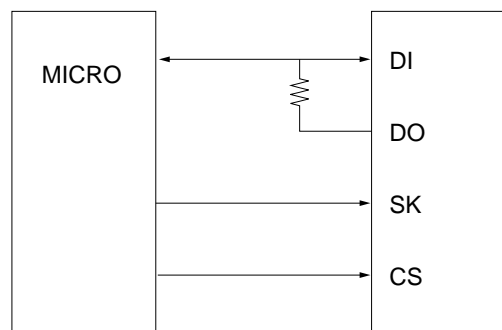
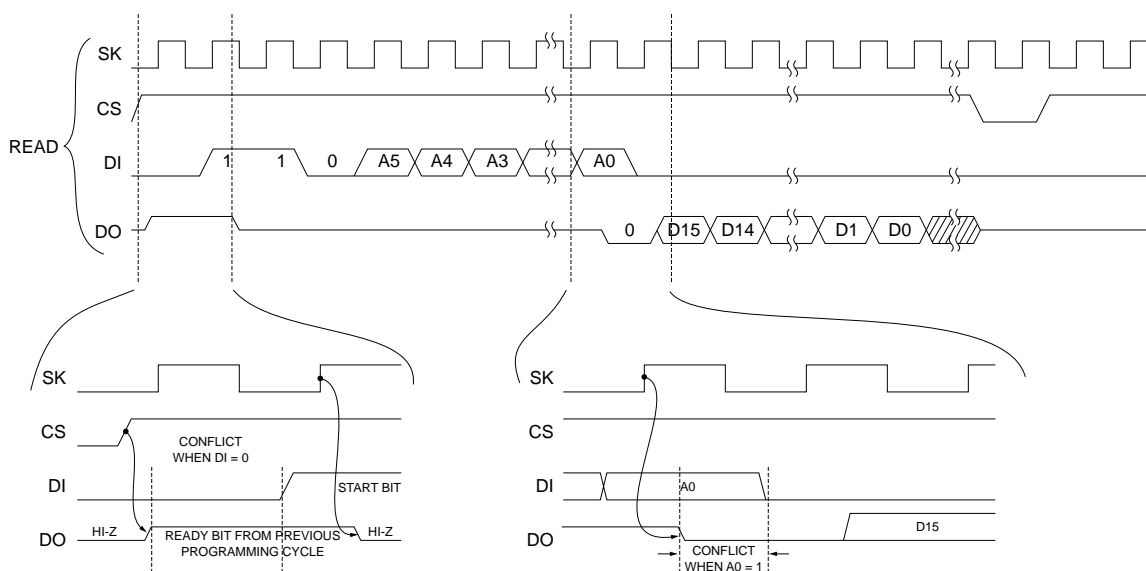

FIGURE 5. Three Wire Connection Showing Optional Resistor
FIGURE 6. Three Wire Connection Bus Conflict Areas
- When Data-In is tied to Data-Out, there is a possible conflict between address A0 in the instruction sequence and the dummy bit. This only occurs during a READ cycle. This is not harmful to the device and the internal circuitry of the EEPROM guarantees that the device will function properly under this condition. To decrease the noise created by the condition, a resistor may be placed in the locations indicated in Figure 5. The timing diagram in Figure 6 shows the bus conflict.
are clocked in (See Figure 6). The solution is to either use a separate cycle to clear the Ready bit or to eliminate any leading zeros from the instruction sequence.